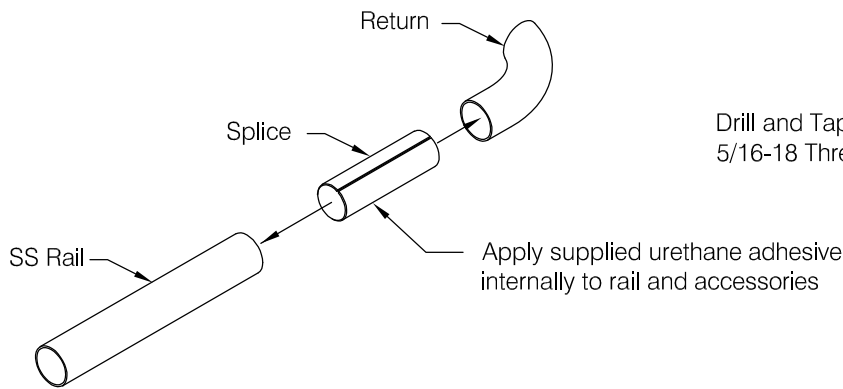

fig 2
- Step 3:** Attach wall returns and one side of corners to rail by applying a layer of two-part urethane adhesive (included) to the inside of handrail and accessory tubing, see **fig 2**. Follow mixing and curing instructions on adhesive packaging for proper use. Install the internal compression splice into the accessory first, and then install the splice/accessory combination into the rail.